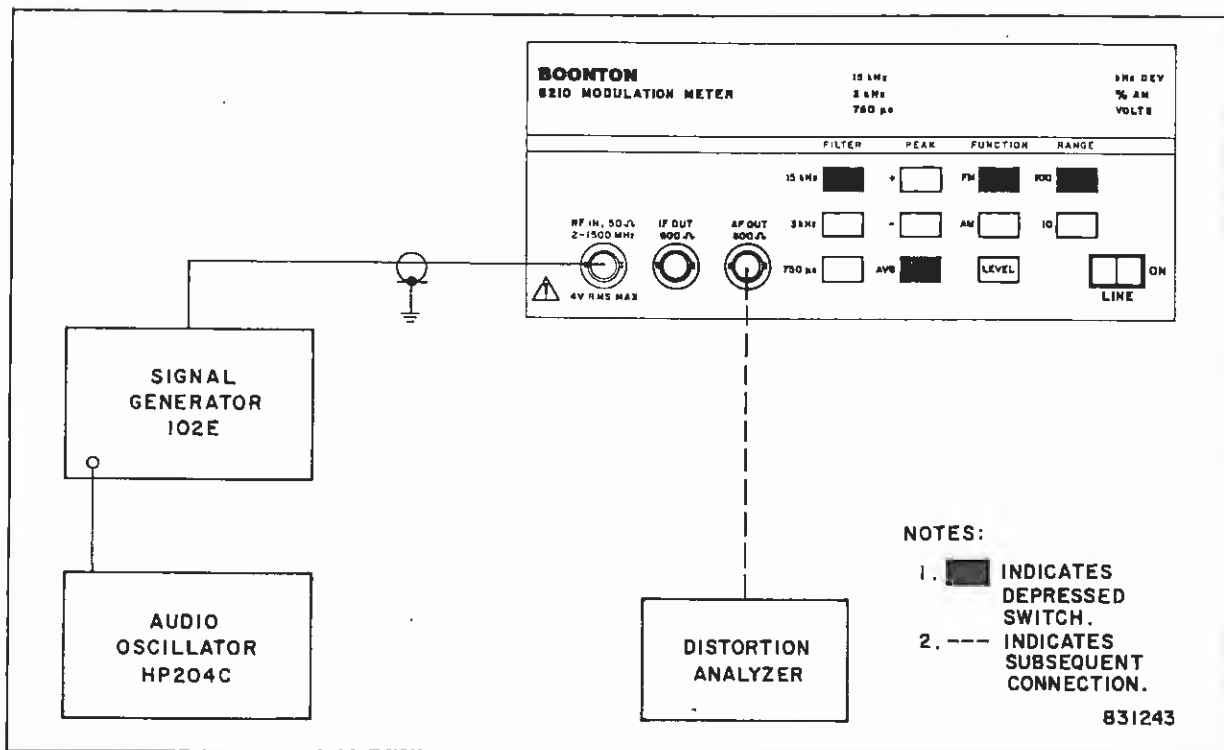

Figure 2-9. Test Setup: F.M. Audio Distortion and F.M. Rejection
- (1) Connect the 8210 and test equipment as shown in Figure 2-9.
- (2) Set the controls of the 8210 as shown.
- (3) Set the signal generator to 100 MHz, 0 dBm, and external f.m.
- (4) Adjust the level of the audio oscillator for 75 kHz peak deviation at a 1 kHz rate.
- (5) The indicated distortion should be less than 0.25%.
- (6) Repeat Step (4) for modulation rates of 50 Hz and 10 kHz.
- (1) Connect the equipment as shown in Figure 2-9.
- (2) Set the controls of the 8210 as indicated.
- (3) Adjust the audio oscillator's frequency to 1 kHz; adjust its amplitude for a 100 kHz peak deviation.
- (4) Change the 8210's FUNCTION to AM and its RANGE to 10.
- (5) The display should indicate less than 1.0%, peak.
- (1) Connect the equipment as in Figure 2-9.
- (2) Set the 8210's controls as shown.
- (3) Adjust the audio oscillator's frequency to 300 Hz, then adjust its amplitude until the 8210 reads 100.0 kHz.
- (4) Without changing the audio oscillator's level, adjust its frequency to exactly 3.00 kHz.
- (5) The Model 8210 display should indicate between 67.5 and 73.8 kHz.
- (3) Adjust the audio oscillator's frequency to 212.2 Hz, then adjust its amplitude until the 8210's display indicates 100.0 kHz.
- (4) Change the 8210's FILTER to 750 μ s.
- (5) The display should read between 68.0 and 73.5 kHz deviation.